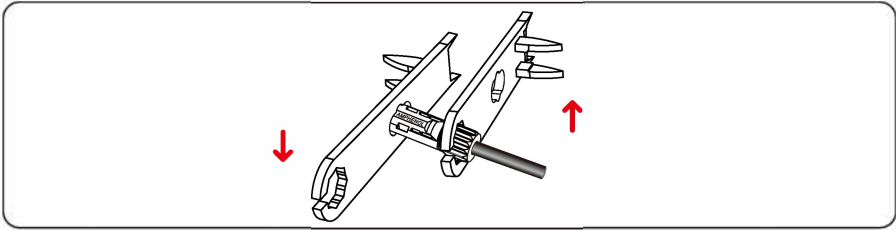

Figure 5.14 Locking connectors
Step 4 Tighten the locking nuts on the positive and negative connectors using a removal wrench, as shown in Figure 5.14.